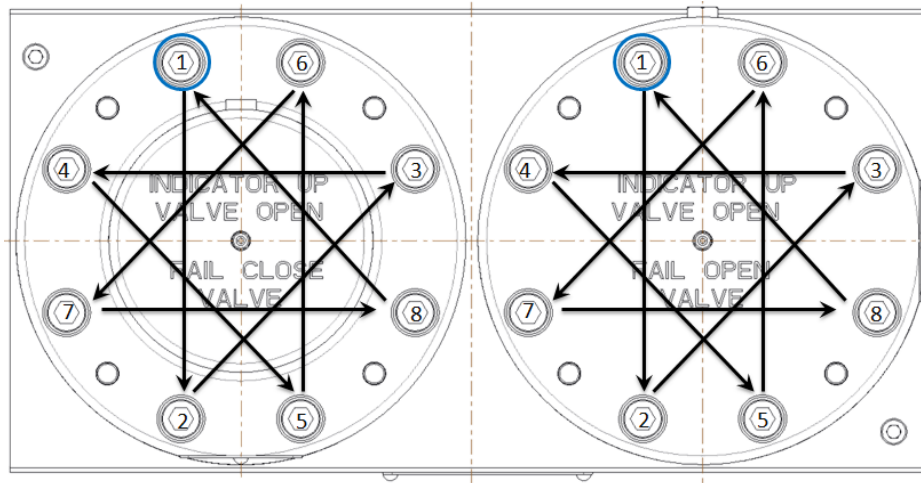

Figure 4-7. Torque Crossing Pattern Diagram
- Torque each bolt to its finished torque of (17.6 to 19.3) N•m [(156 to 171) lb-in]. The final torque must be in a crossing pattern as shown in Figure 4-7.